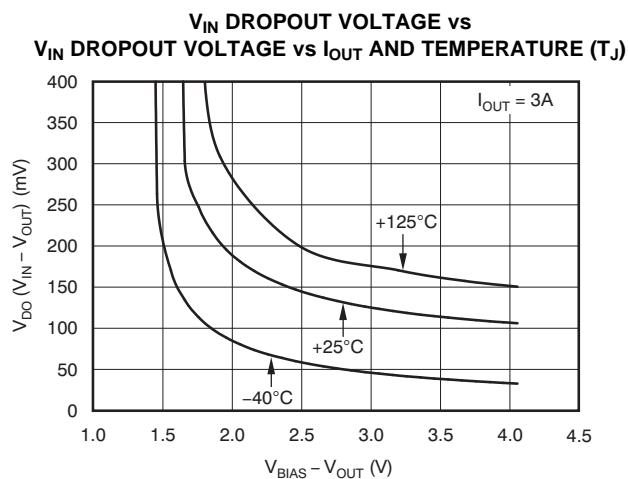

Figure 8.
(1) Adjustable devices tested at 0.8V; resistor tolerance is not taken into account.
(2) Dropout is defined as the voltage from V_{IN} to V_{OUT} when V_{OUT} is 3% below nominal.
(3) 3.25V is a test condition of this device and can be adjusted by referring to Figure 8.
(1) 3.25V is a test condition of this device and can be adjusted by referring to Figure 8.